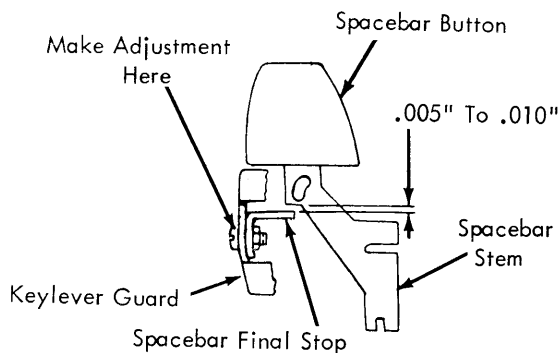

FIGURE 119. *Spacebar Final Stop (Early Style)*
6. Spacebar Final Stop - On early level machines, adjust the stop located on the keylever guard to obtain .005" to .020" clearance between the stop and the spacebar center stem at the time a repeat operation occurs (Fig. 119). On current level machines the final stop has been eliminated.